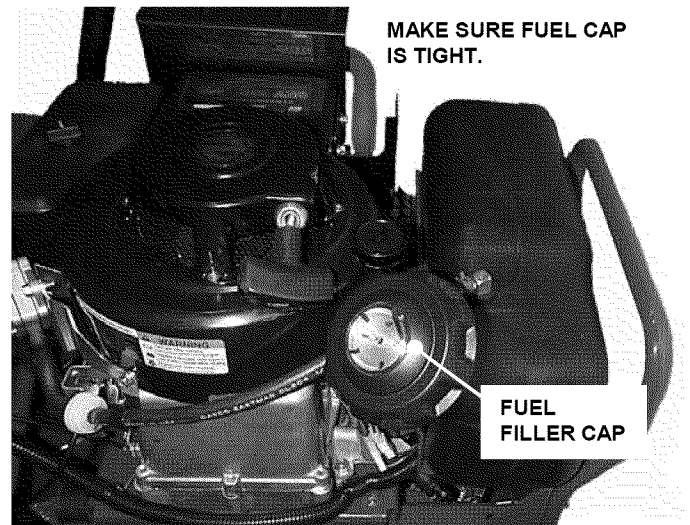

FIGURE 2.2
2.1.7. Add fuel to tank after pushing the machine outside where fumes can dissipate. Make sure fuel filler cap is tight after refueling. Refer to engine owner's manual for fuel specifications. See Figure 2.2.